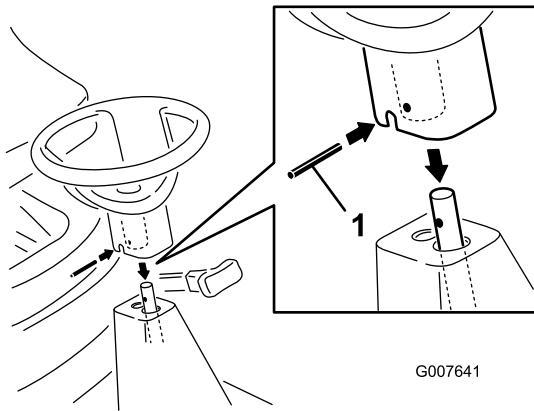

Figure 3
2. Secure the steering wheel with the socket pin (Figure 3).